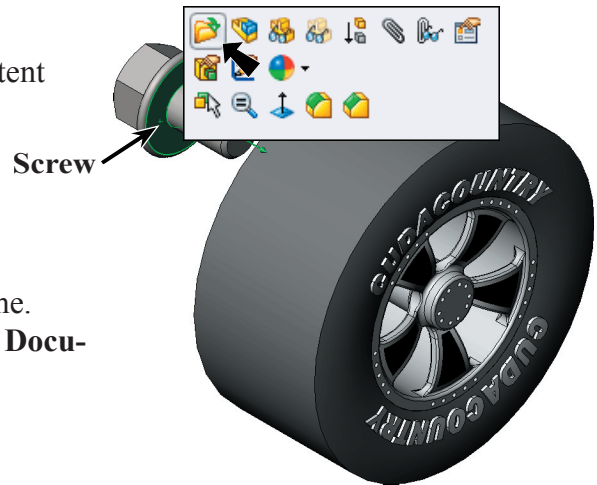

Fig. 9
Step 1. Click the screw and click **Open** from the Content Menu, **Fig. 9**.